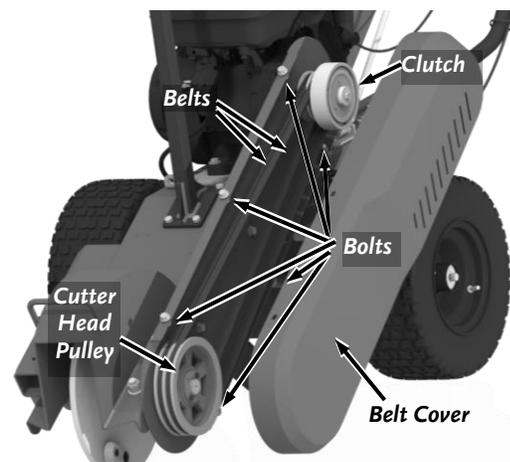

Figure 26
1. Remove the six Bolts that secure the Belt Cover using a 9/16" Wrench. Set aside the Belt Cover to expose the Belts and Clutch (**Figure 26**).